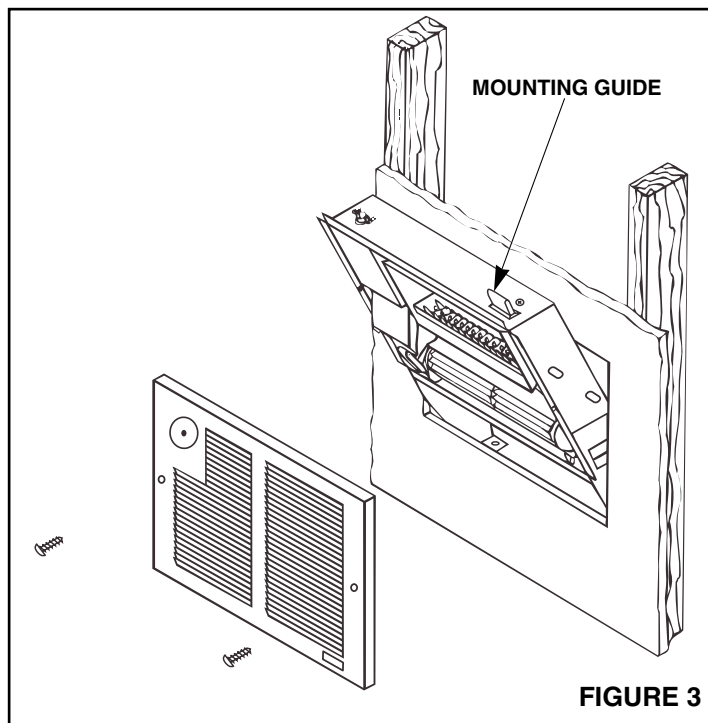

FIGURE 3
3. **Refer to Figure 3.** Remove thermostat mounting bracket and disconnect wiring terminal from the thermostat to heater unit. Remove the four (4) screws securing the unit to the housing. Run wiring from circuit breaker or fuse box to wall switch (not provided) then to heater location.
7. Re-install the mounting guides and secure to wall as illustrated in Figure 3. **IMPORTANT: The wall surface will fit between the mounting guide bracket and the plaster flange. The housing's flange must be flush with the finished plaster line.**